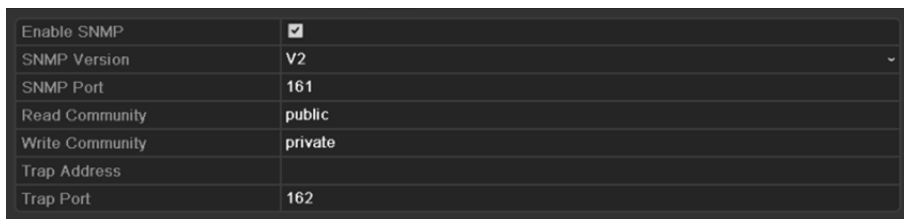

Figure 11-10 SNMP Settings Interface
Step 2 Select the **SNMP** tab to enter the SNMP Settings interface, as shown in Figure 11-10.